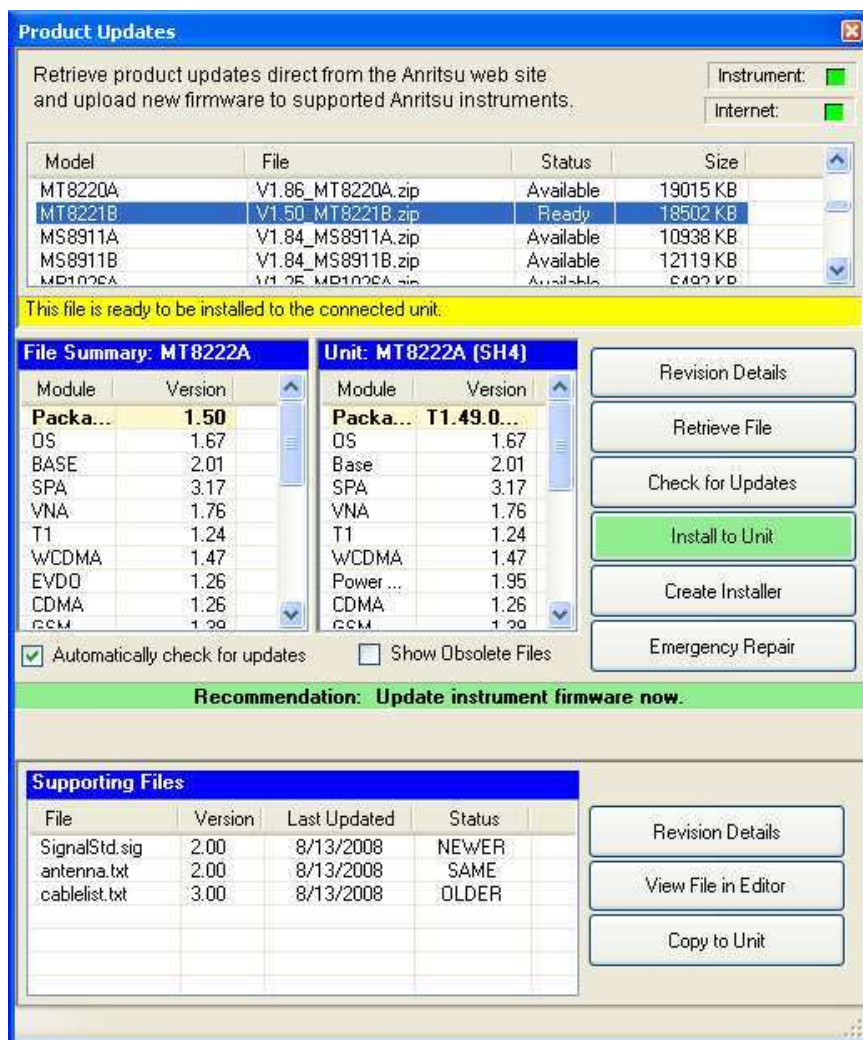
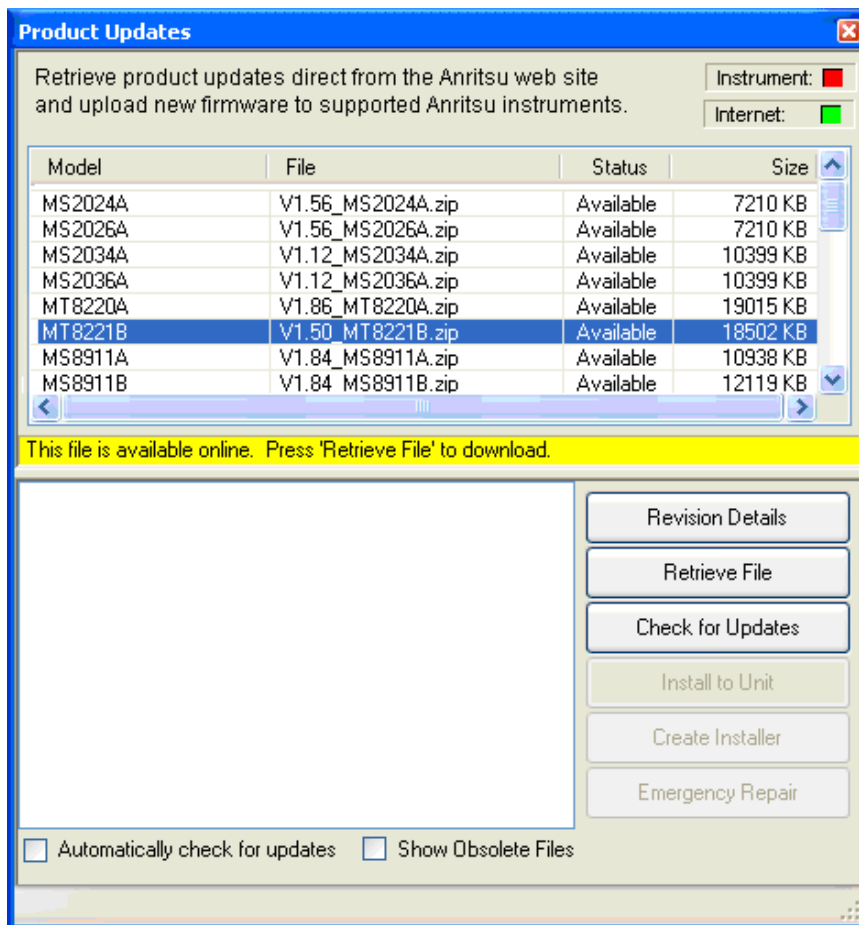

Figure 7-3. Product Updates Window: Status Ready
Figure 7-4. Product Updates Window: Status Available
5. Notice the differences in the two Product Update windows in Figure 7-3 and Figure 7-4.
In Figure 7-3, the status of the highlighted file is Ready, and the Install to Unit button is active. You can immediately click Install to Unit to update your BTS Master with the new firmware.
In Figure 7-4, the status of the highlighted file is Available, and the Install to Unit button is gray and inactive. This means that the updated file is on the Anritsu Product Support Web site and needs to be downloaded to your PC. After the file has been downloaded and placed on your PC, its status changes to Ready, and the Install to Unit button becomes active.